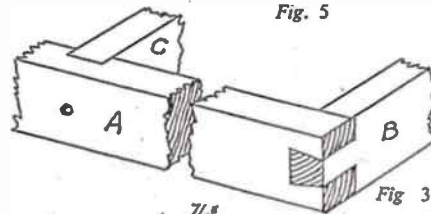

Fig. 3
simple matter to set out the various parts. The side rails (A) are cut from wood 2ins. to 2½ins. wide by 1½ins. thick, while the cross-rails are of same section and are framed to the side rails in the manner shown in Fig. 3. The cross-rails (C) are housed in and held firmly by hard-wood dowels driven through the rails (A) and later cleaned off flush. Glued angle blocks may be